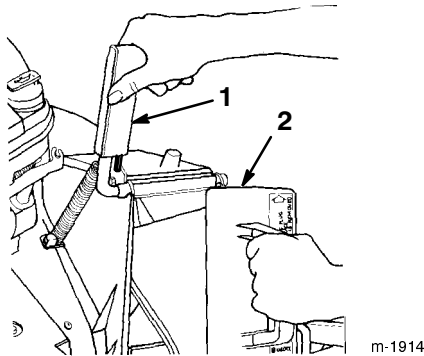

Figure 3
1. Open the discharge door by pulling forward on the handle and moving it rearward (Fig. 3). Hold the discharge door handle to prevent the spring-loaded door from closing while you insert the plug.
2. Since the plug is slightly wider than the discharge tunnel opening, rotate the plug clockwise slightly while inserting it (Fig. 3).